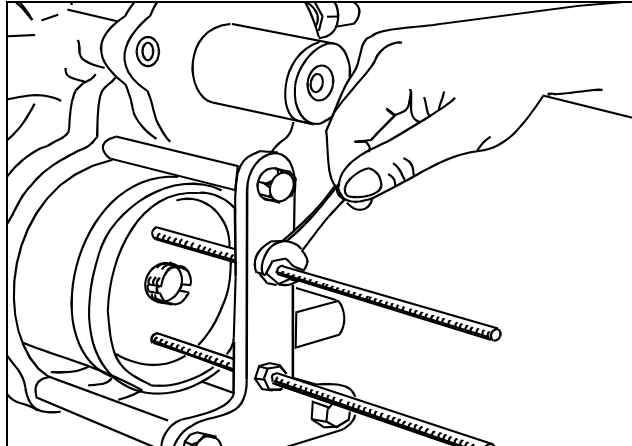

Figure 7: Removing the piston (101) or cylinder (108) and cylinder limitation (114) using removal device T2
- Remove piston (101) by means of removal device T2 (figure 7).
- Remove cylinder (108) and cylinder limitation (114) also using removal device T2. The device should be applied according to figure 7. However, the removal bolts must be screwed into the cylinder limitation.